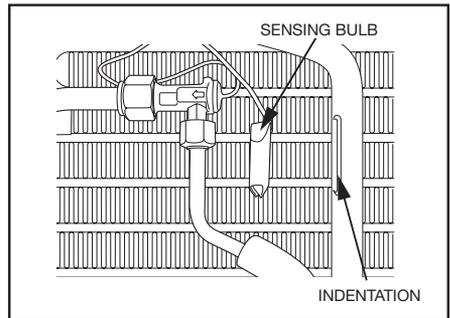

Fig. 5
5. Lay the sensing bulb inside the indentation of the evaporator and secure it with the original clip (See Fig. 5).